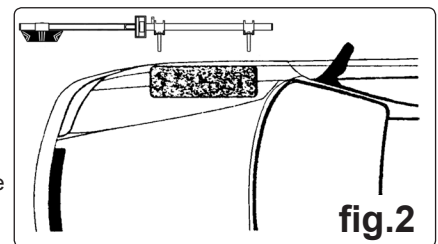

fig.2
4.2 Position the laser unit against the offside front wheel (see fig.2) and adjust the height of the contact bars closest to a horizontal line through the centre of the wheel. At the same time adjust the side to side positioning of the contact bars so that they touch the sidewall of the tyre either side of the rim. Position the tips of the contact bars to touch the centre of the sidewalls at the greatest point of curvature. Avoid any ribs or raised lettering on the tyre side wall.